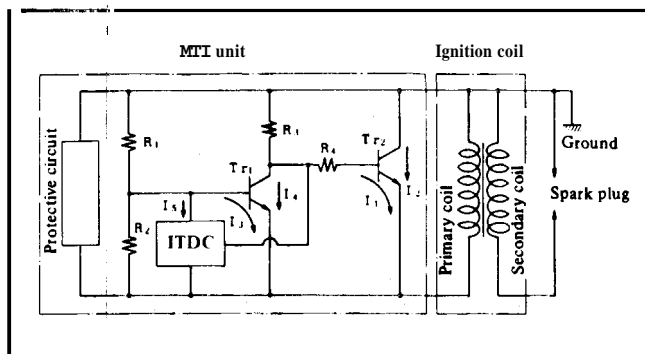

Figure 32
1. The magnet passes by the coil and induces an alternating voltage. See Figure 32.